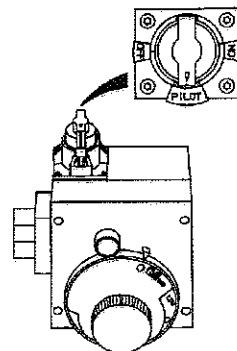

Figure 7
8. If you don't smell gas, turn knob on gas control counter clockwise (↺) to "PILOT" position. (Figure 7)